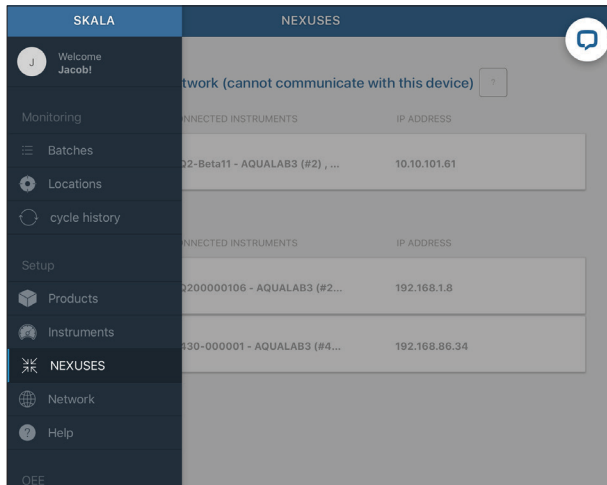

Figure 17 NEXUSES option on Main menu
8. Verify that the AQUALAB 3 system is able to locate registered NEXUSES by opening the NEXUS window from the SKALA Mobile app Main menu (Figure 17).